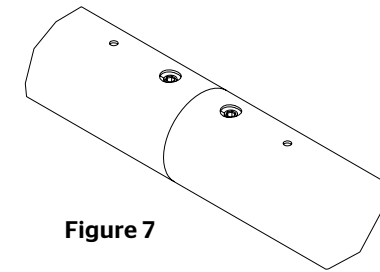

Figure 7
5. Finished joint should look like Figure 7.